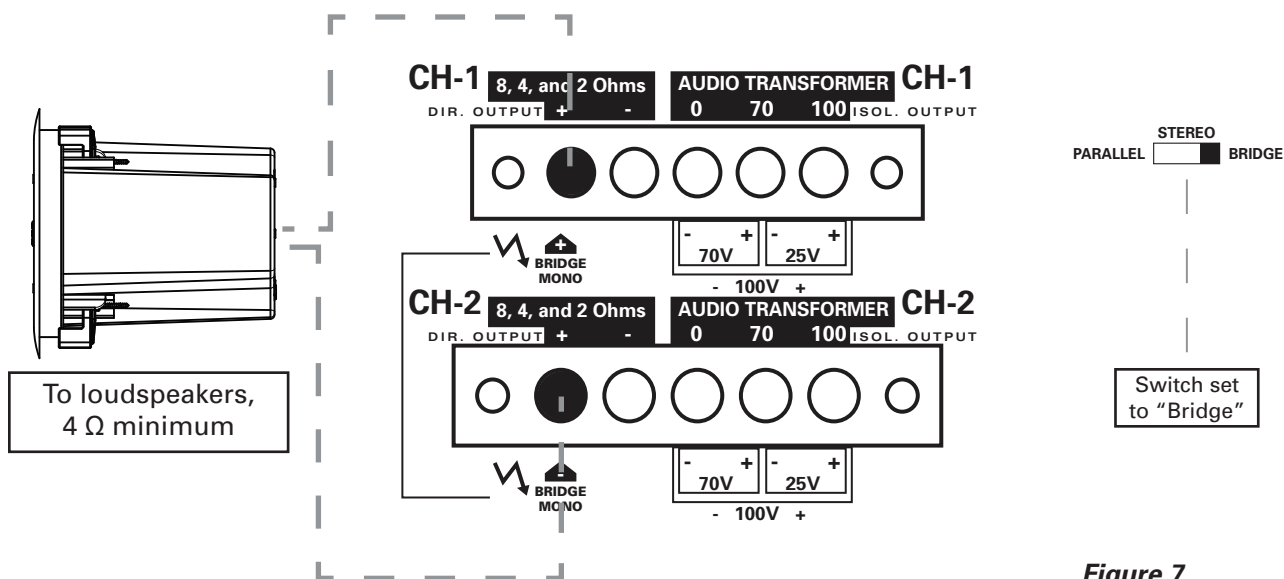

Figure 7
- **Bridge** - When the switch is set to this position, connect the mono input signal to channel 1 **ONLY**. The speaker load is connected across the two positive terminals as shown in Figure 7 on page 10. The amplifier will deliver approximately twice the voltage across the load. Please observe the minimum load specification when operating in Bridge mode.
With the amplifier turned **OFF**, move the rear mounted selector switch to the "Bridge" position and connect the input signal to channel one. Connect your speaker load (4 and 8  $\Omega$  only) across the "+" terminals of both channels, with channel 1 being positive and channel 2 being negative (Figure 7).